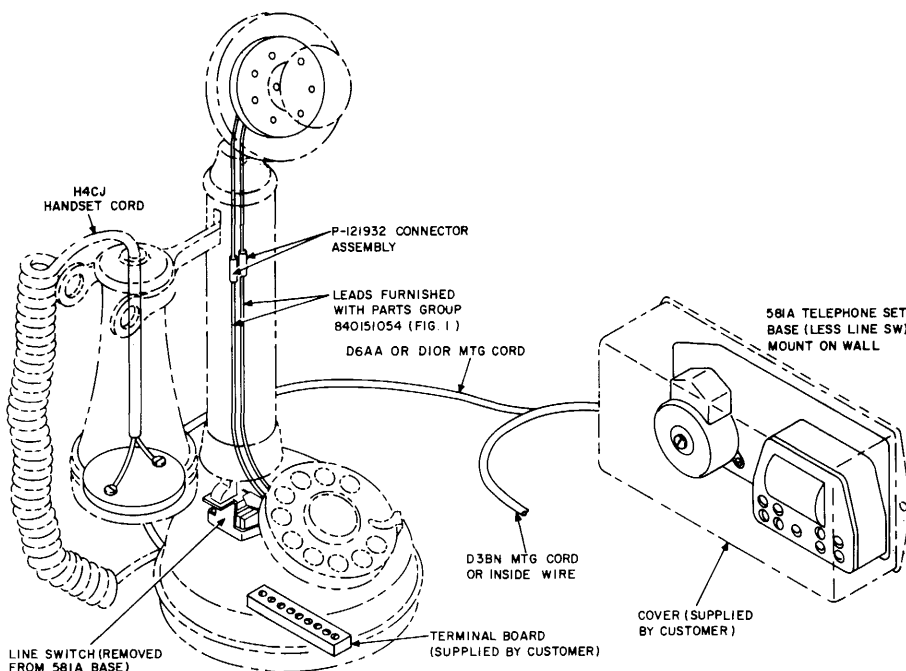

Fig. 6—Typical Installation of Desk Stand Type Telephone Set
- (1) Remove line switch from 581A base (current model only).
- (2) Remove square snap-in cover from bottom of candlestick mounting base.
- (3) Mount line switch to customer's set with actuator toward terminal board.
- (4) A typical installation of a desk stand type telephone set is shown in Fig. 6.
- (5) If 581A base (subset) is wall mounted, adjust ringer volume control to "LOUD" before attaching subset to wall.